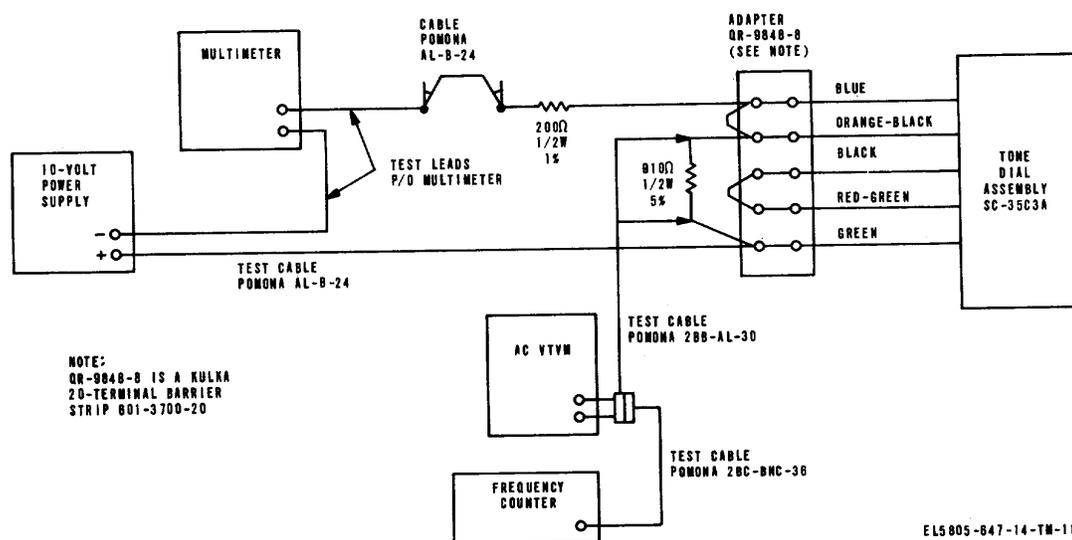

Figure 6-23. Tone Dial Assembly SC-35C3A, performance test setup diagram.
- (1) Connect the test equipment as shown in figure 6-23.
- (2) Set the power supply for 10 vdc.
- (3) Hold one of the digit pushbuttons